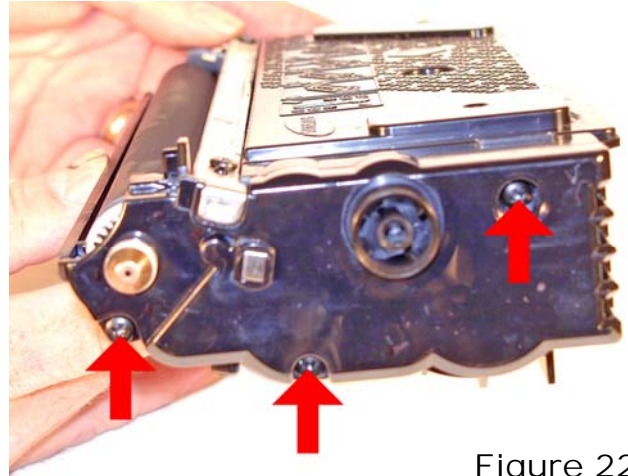

Figure 22
19) Install the gear end cap and three screws. See **Figure 22**